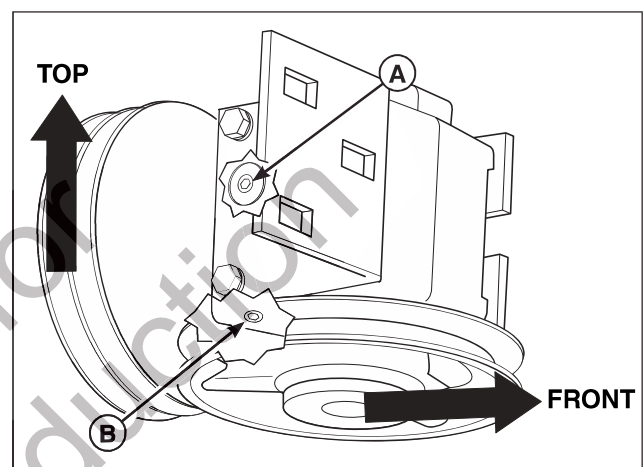

Figure 36. Gearbox Oil Level
1. Remove fill plug (A, Figure 36) on gearbox.